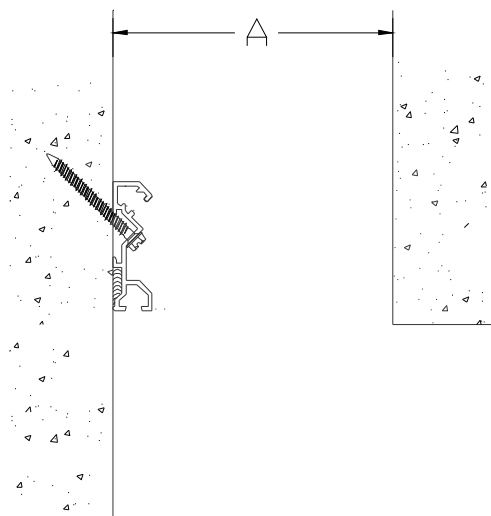

Figure 4
**STEP 8.** Using the fasteners provided by the factory, attach the base member to the wall, see Figure 4. Ensure that the base member remains properly aligned, level, and straight.